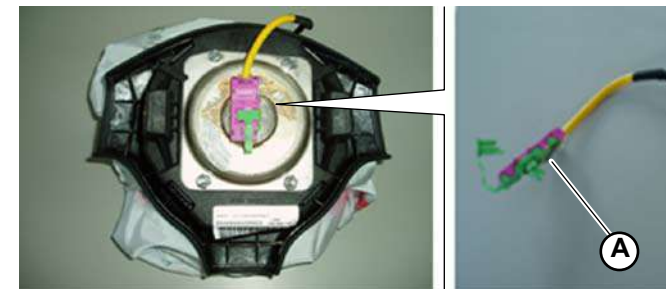

Fig.1
- Take off the squib connector (A-Fig.1).